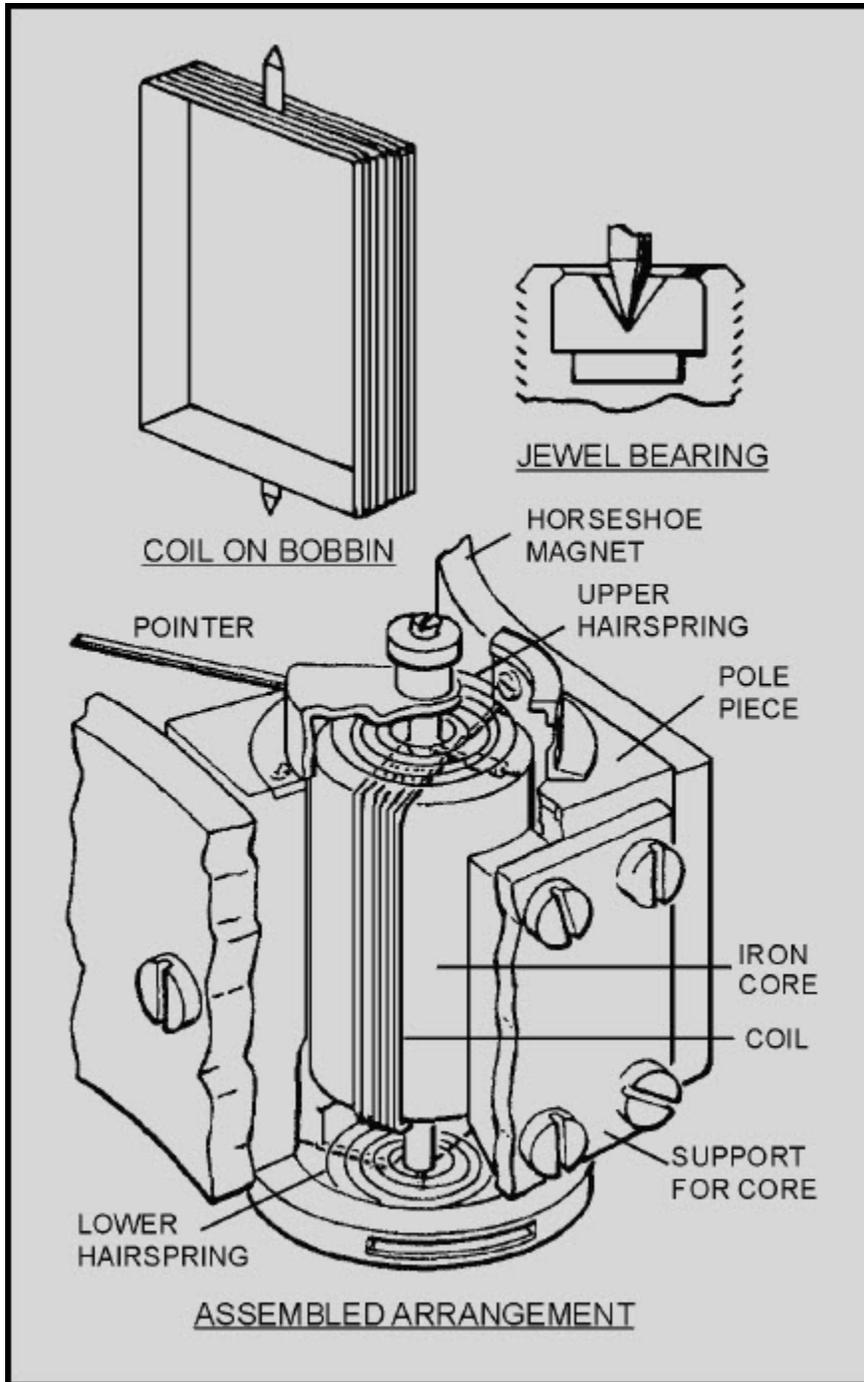

Figure 3-3 Detailed view of the basic D'Arsonval meter movement
**PRINCIPLE OF OPERATION** - A more detailed view of the basic D'Arsonval movement, as it is used in ammeters and voltmeters, is shown in figure 3-3. The principle of operation is the same as that discussed in the simplified version. The iron core is rigidly supported between the pole pieces; it serves to concentrate the flux in the narrow space between the iron core and the pole piece. Current flows into one hairspring, through the coil, and out the other hairspring. The restoring forces of the spiral springs return the pointer to the normal zero position when the current through the coil is interrupted. Conductors connect the hairsprings with the outside terminals of the meter. If the instrument is not DAMPED to absorb the energy of the moving element, the pointer will oscillate (vibrate) for a period of time before coming to a stop in its final position. Damping is an energy-absorbing system that prevents this.
**DAMPING** - This is accomplished in many D'Arsonval movements by means of the motion of the aluminum bobbin on which the coil is wound. As the bobbin rotates in the magnetic field, an electromotive force is induced into it as it cuts through the lines of force. Induced currents flow in the bobbin in a direction opposite to the motion; this causes the bobbin to go beyond its final position only once before stopping. The overall sensitivity of the meter can be increased by the use of a lightweight rotating assembly (bobbin, coil, and pointer) and by the use of jewel bearings, as shown in figure 3-3.